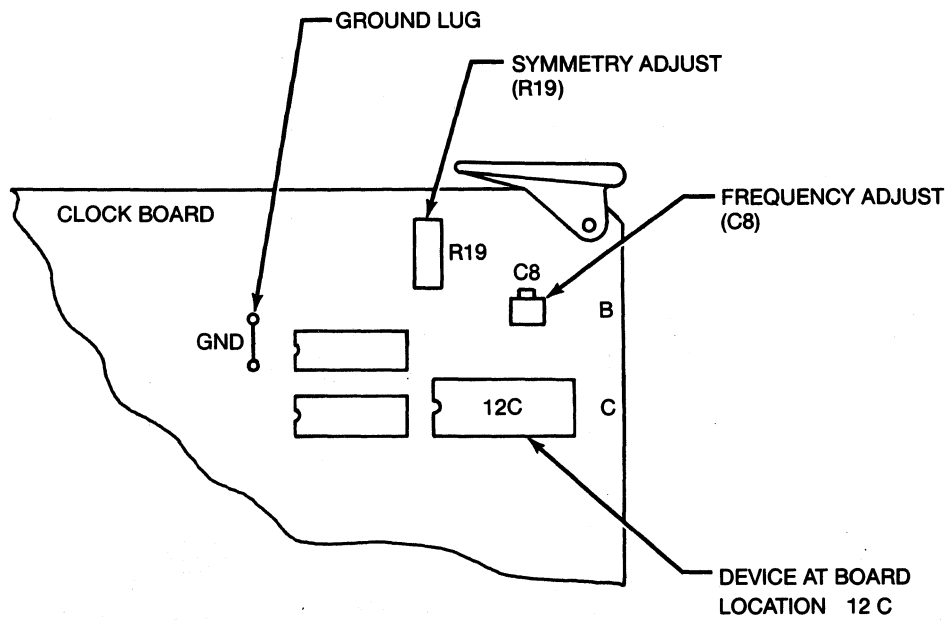

Figure 3-8. Clock Board Internal Clock Adjustment
4. Connect oscilloscope input lead to pin 12 on IC device at board location 12C. Connect the other lead to ground lug at board location 11B (see Figure 3-8 for Clock Board component locations).